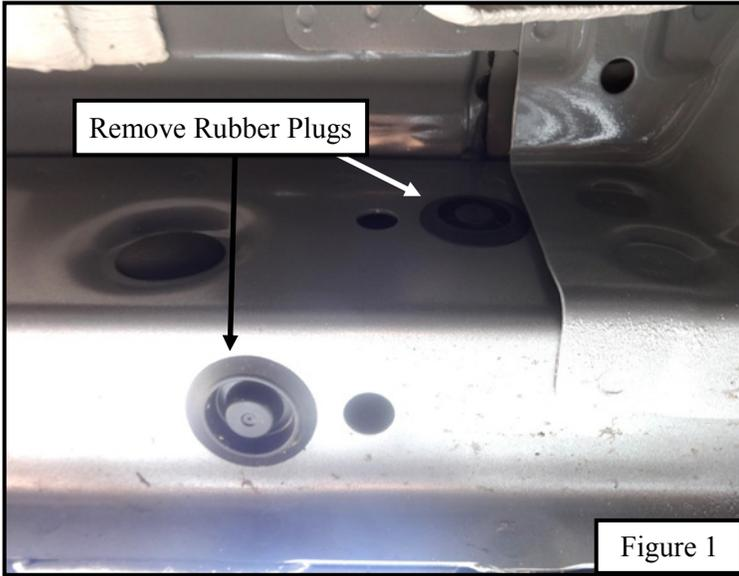

Figure 1
1. Remove the rubber plugs located on the rocker panel at each bracket mounting location. **See Figure 1.**